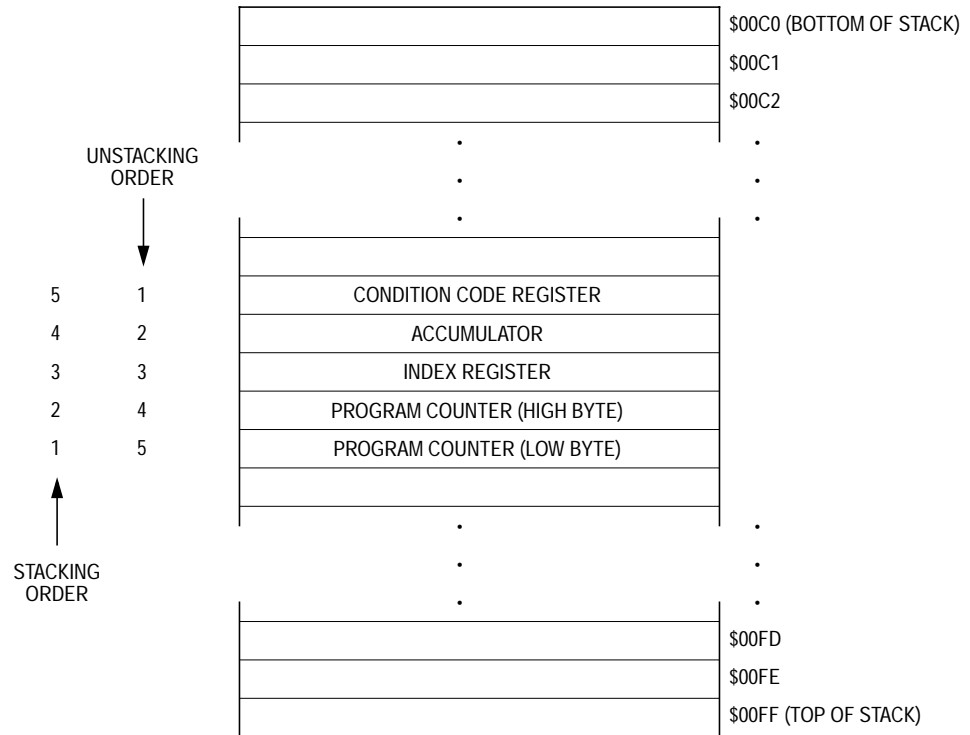

Figure 4-4. Interrupt Stacking Order
1. Stores the CPU registers on the stack in the order shown in Figure 4-4
The return-from-interrupt (RTI) instruction causes the CPU to recover the CPU registers from the stack as shown in **Figure 4-4**.